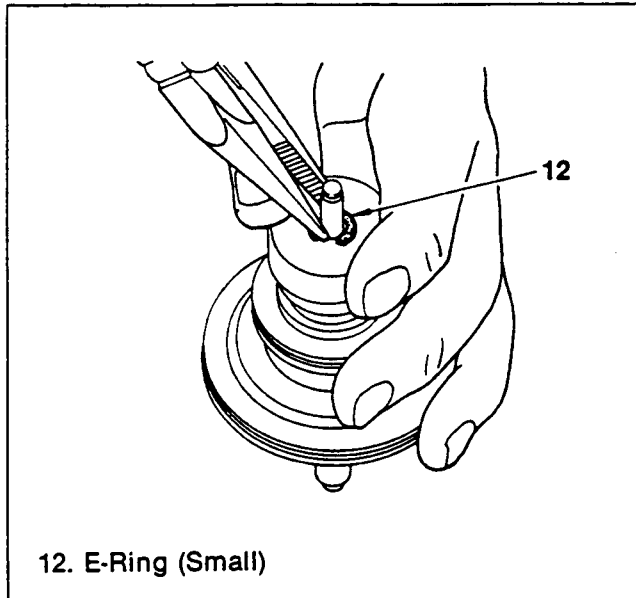

Figure 221. Piston Stem Installation (2)
5. Place the piston stem on a piece of wood or the like. Pressing the servo piston spring retainer down and using pointed pliers, etc., attach the E-ring (figure 221).